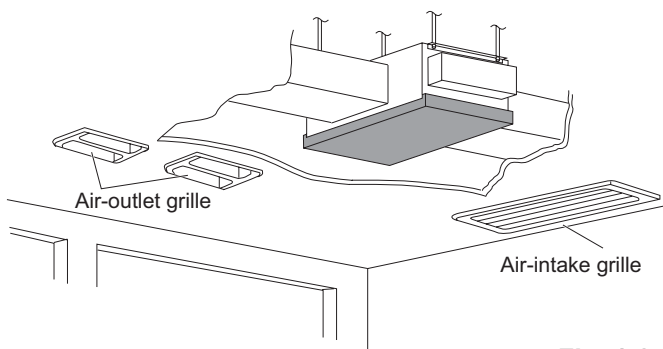

Fig. 1-25
- Plug all gaps at tube through-holes in the unit with insulation or a similar substance to prevent air leakage. (Fig. 1-25)